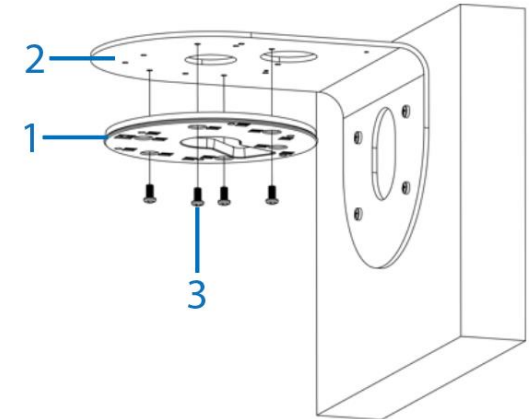

Figure 5
- Hold the Essential adaptor plate (1) (Figure 5) up to the wall mount (2) (Figure 5) and align the four 'D' holes on the adaptor plate with the four holes on the wall mount.
- Insert the four M4 x 0.7P x 10L screws (3) (Figure 5) into the four holes and securely attach the adaptor plate to the L-Shape wall mount.